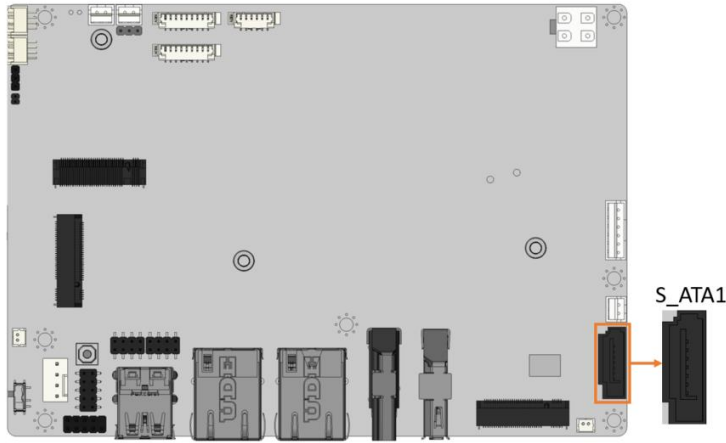

Figure 3-13: SATA 6Gb/s Drive Connectors Location
- CN Location:** See **Figure 3-13**